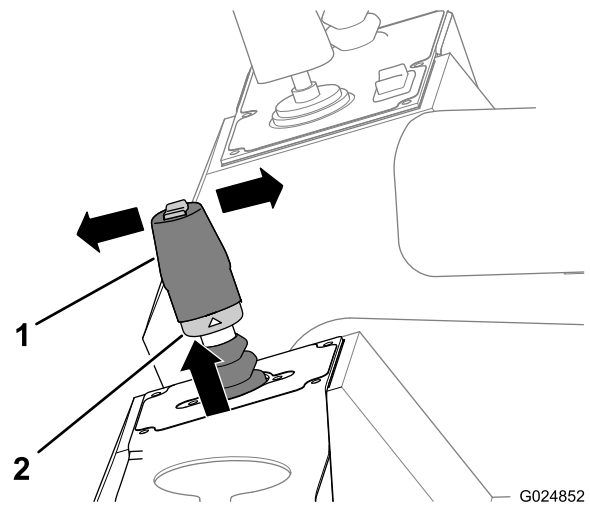

Figure 42
2. Lift up on the lock ring that is at the bottom of the joystick handle (Figure 42).
- Move the lever forward (toward the front of the machine) to move the machine forward (Figure 42).
- Move the lever rearward (toward the rear of the machine) to move the machine in reverse (Figure 42).
4. Release the lock ring and the lever (Figure 42).
5. Return the lever to the Neutral position to stop the machine (Figure 42).